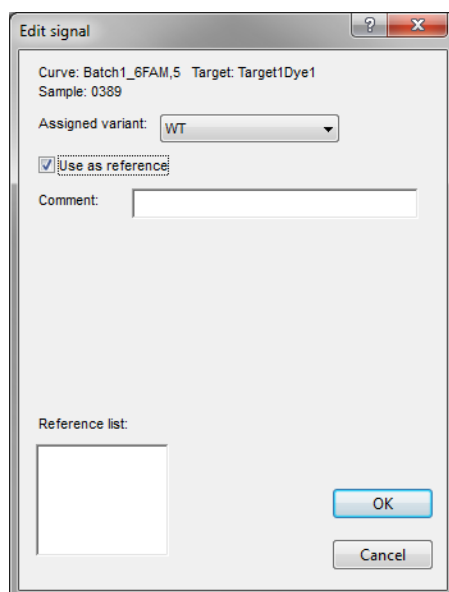

Figure 3.21: The *Edit signal* dialog box.
9.2 To mark the signal as a reference, click on the signal (gray) bar and press the **Enter**-key (or *HDA* > *Edit signal*, or double-click) to call the *Edit signal* dialog box (see Figure 3.21).